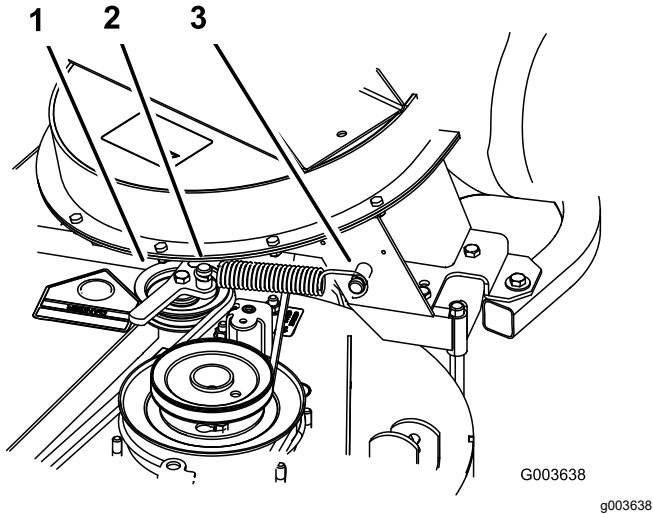

Figure 42
6. Install the spring as shown in Figure 42.